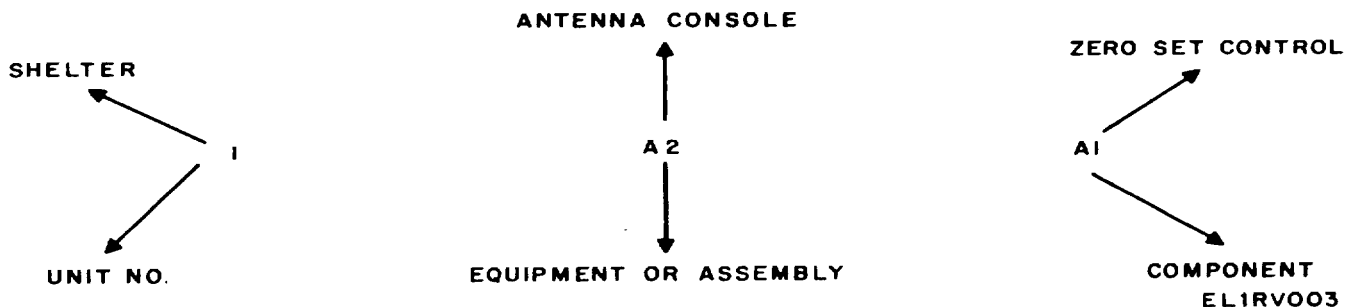

Figure 1-3. Typical assignment of reference designators.
a. Reference designators have been assigned to aid in the identification and location of components of the AN/TSC-54. For example, as shown in figure 1-3, Zero Set Control C-7242/TSC-54 is designated IA2AI; thus, the zero set control (AI) is located in the Satellite Communications Console OJ-17/TSC-54 (1A2) which is part of Communications Terminal Group OW-II/TSC-54 (unit No. 1).